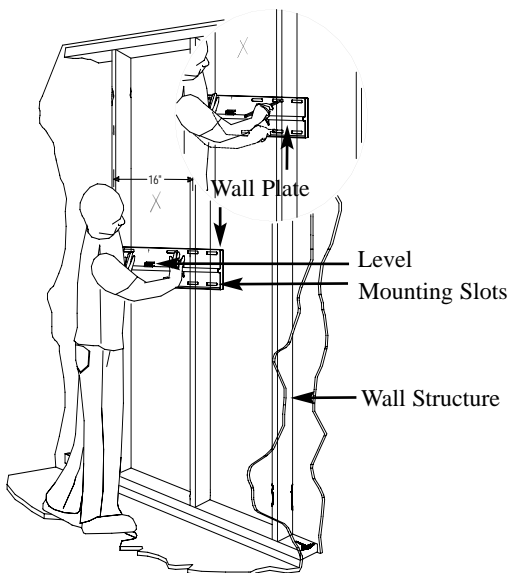

Figure 9
1. Place the upper portion of the bottom wall plate to the reference line and mark the four (4) lag bolt mounting points through the wall plate slots on the wall (Figure 9).